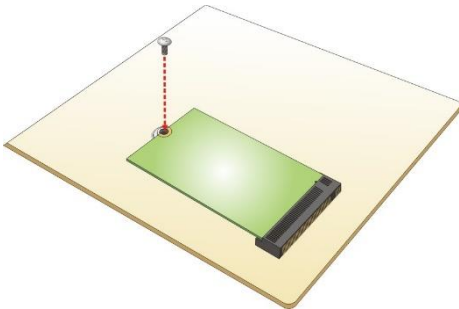

Figure 3-7: Secure the WLAN Module
Step 4: Secure the WLAN module with the retention screw previously removed (**Figure 3-7**).